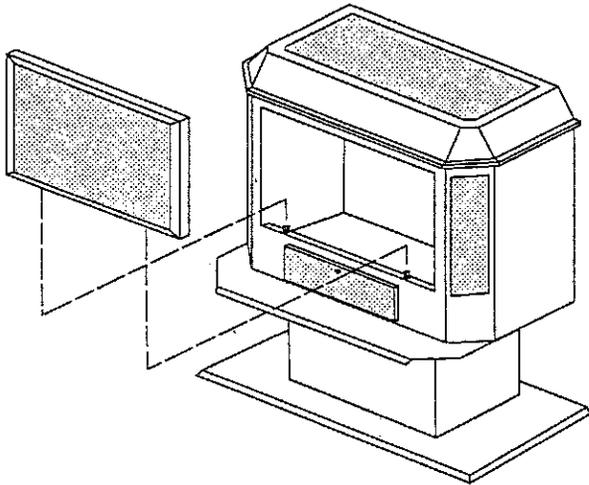

FIGURE 2. Removing Fireplace Screen
REMOVING FRONT SCREEN: Pull gently at top tabs on either side and pulling frame clear and up. Lift front screen off two (2) locating studs at bottom before operation or after cleaning, relocate screen on the locating studs at bottom and push screen into the closed position. You should feel the screen lock into place in the closed position (FIGURE 2).